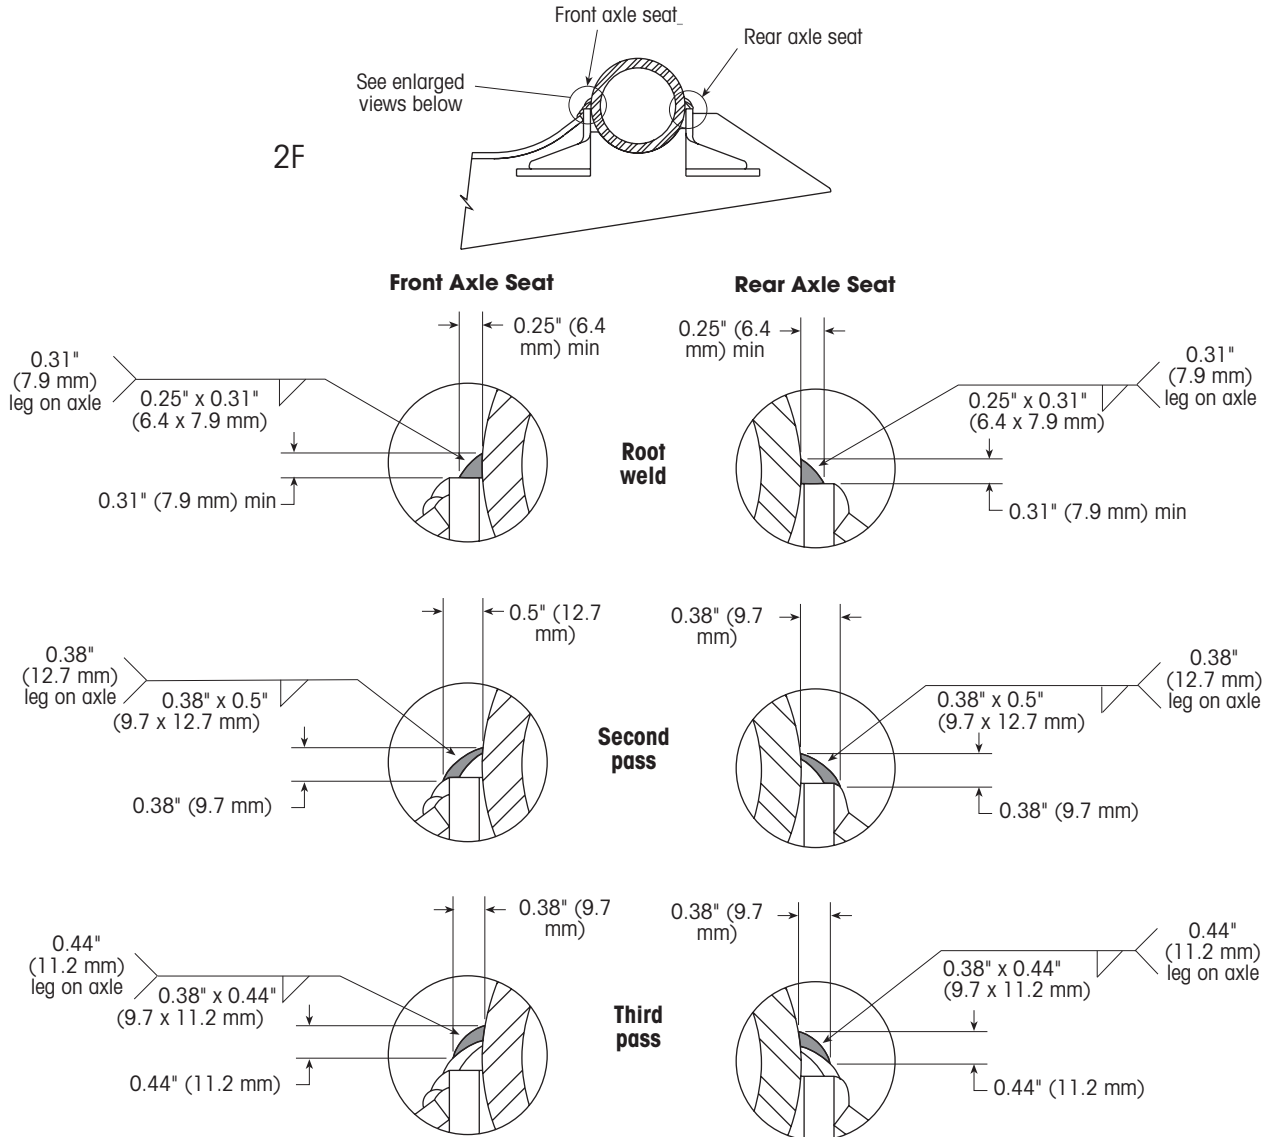

Figure 5: Axle weld passes — all HT™ Series suspensions
**NOTE:** All axle seat connections require three weld passes to be performed as shown. Figure 5 shows the location and size of each weld.